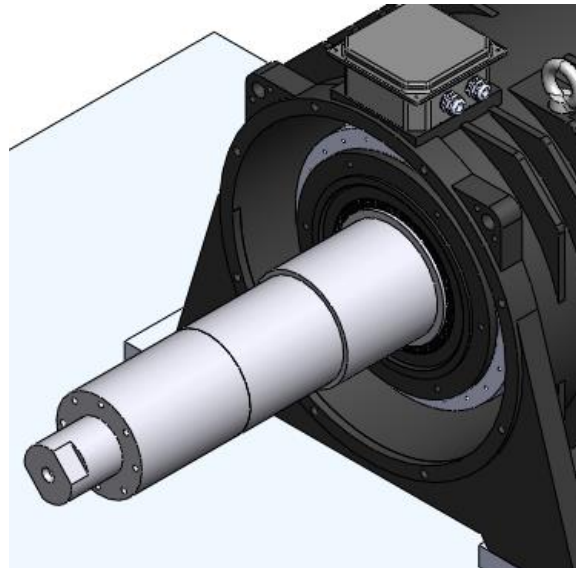

Figure 145: Install Inner cover
1. Clean the main shaft, put bearing grease (OEM or Shell Gadus S3 V220 C) in the Inner cover, then install it on the main shaft. See Figure 145.